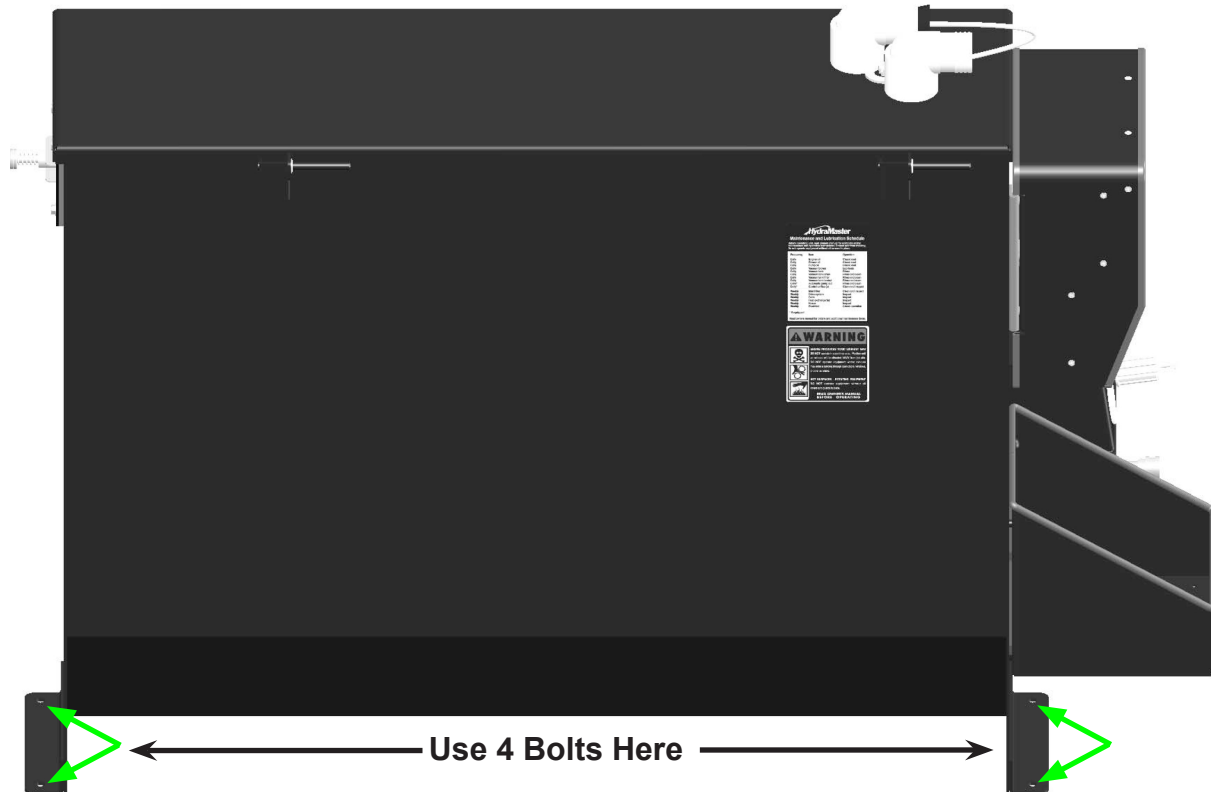
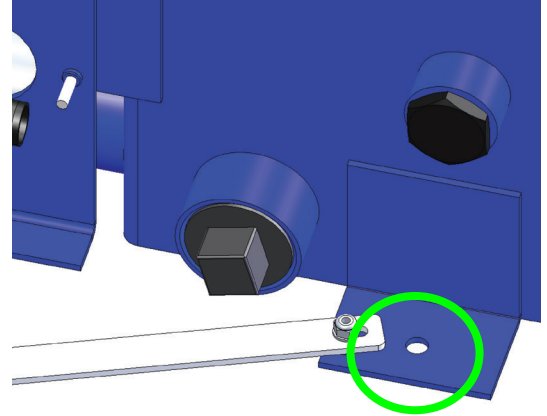

Figure 32. Mark Hole Locations for Recovery Tank - Rear of Tank
Figure 33. Mark Hole Location for Recovery Tank - Front of Tank
2. Mark the positions of the 4 Recovery Tank bracket holes (see Figure 32).
4. Use the 5 bolts from the kit to secure the Recovery Tank to the floor - 4 on the rear of the Recovery Tank (see Figure 32) and 1 towards the front of the tank (see Figure 33).